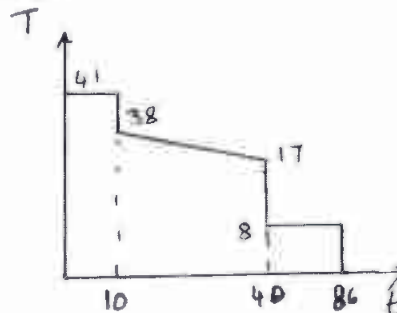

Fig.Q.4(b)
b. Select the motor for driving the equipment which has the load curve shown in Fig.Q.4(b). Last 46 sec torque is constant at 8N-m. (10 Marks)